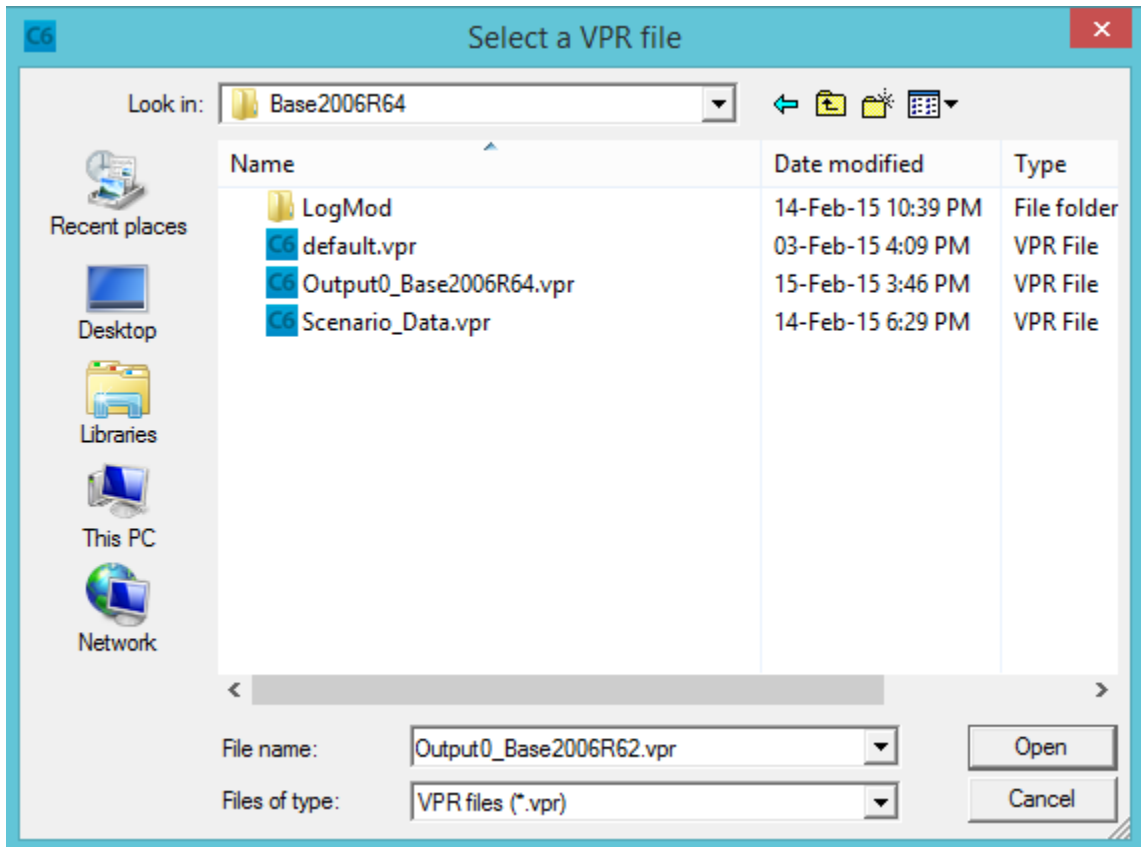

Figure 108 Select vpr file
- 3) Select the Vpr file from scenario having the map you want to use (in the example Base2006R64 folder and Output0_Base2006R64.vpr file), see Figure 108.